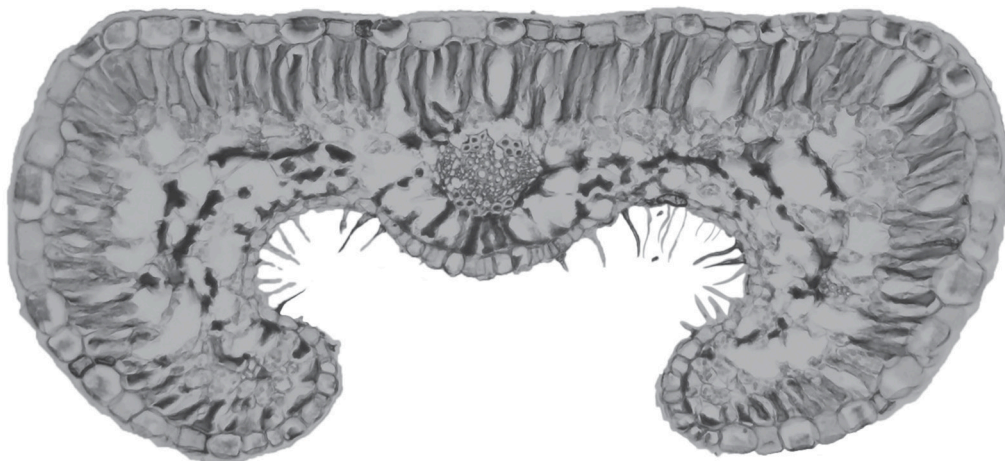
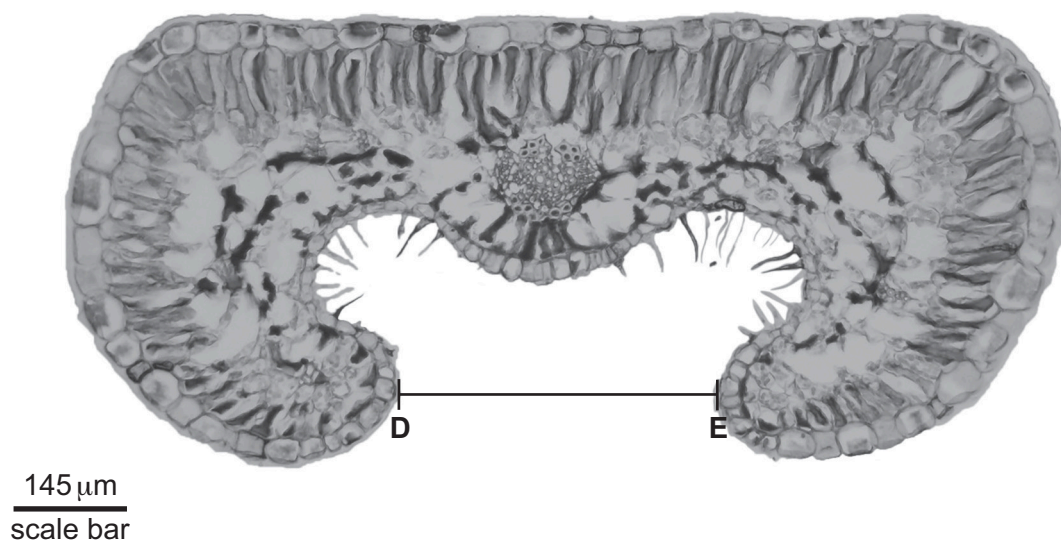

Fig. 2.2
Fig. 2.3
- (b) Fig. 2.2 shows a photomicrograph of a transverse section through a different leaf from that on **M1**.
Identify **three** observable differences, other than colour, between the section on **M1** and the section in Fig. 2.2.
(c) Fig. 2.3 is the same photomicrograph as that shown in Fig. 2.2.
Use the scale bar on Fig. 2.3 and the line **D–E** to calculate the actual length of the gap between the ends of the leaf.